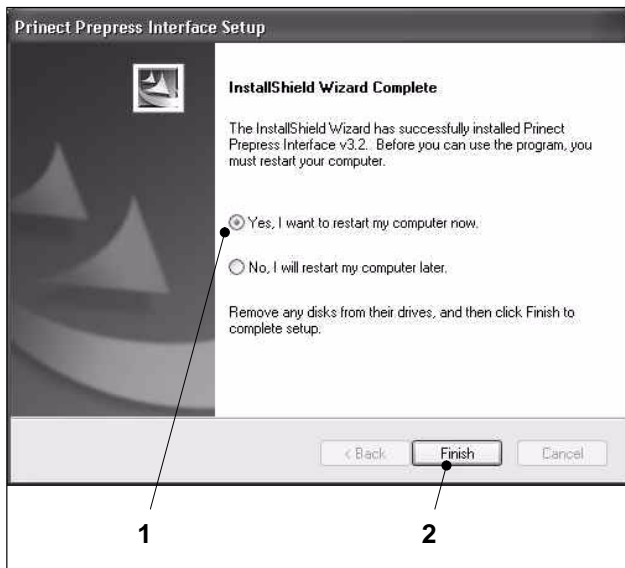

Fig. 7 Restarting the computer
9. Now restart your computer. To do so, first activate the radio button *Yes, I want to restart my computer now* (Fig. 7/1). Click on the *Finish* button (Fig. 7/2). Your computer restarts automatically.